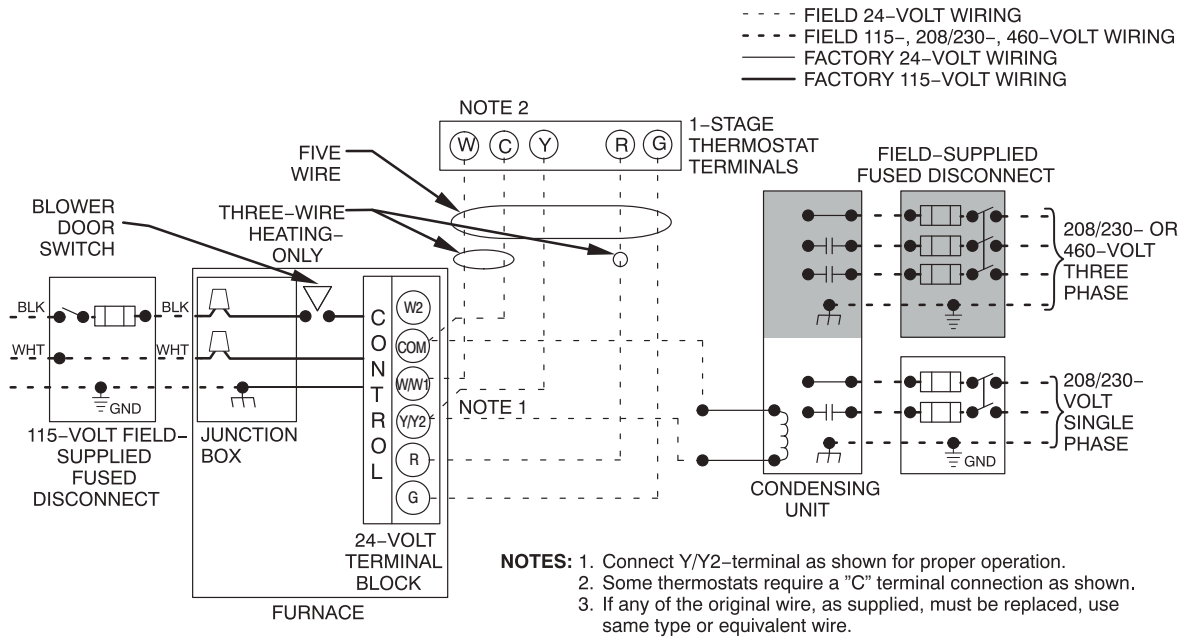

Fig. 37 - Typical Two-Stage Field Wiring Diagram
6. Connect power cord power and neutral leads to furnace power leads as shown in **Fig. 37**.
5. Connect field power and neutral leads to furnace power leads, as shown in **Fig. 37**.
Make field 24-v connections at the 24-v terminal strip. See **Fig. 38**. Connect terminal Y/Y2 as shown in **Fig. 37** for proper cooling operation. Use only AWG No. 18, color-coded, copper thermostat wire.